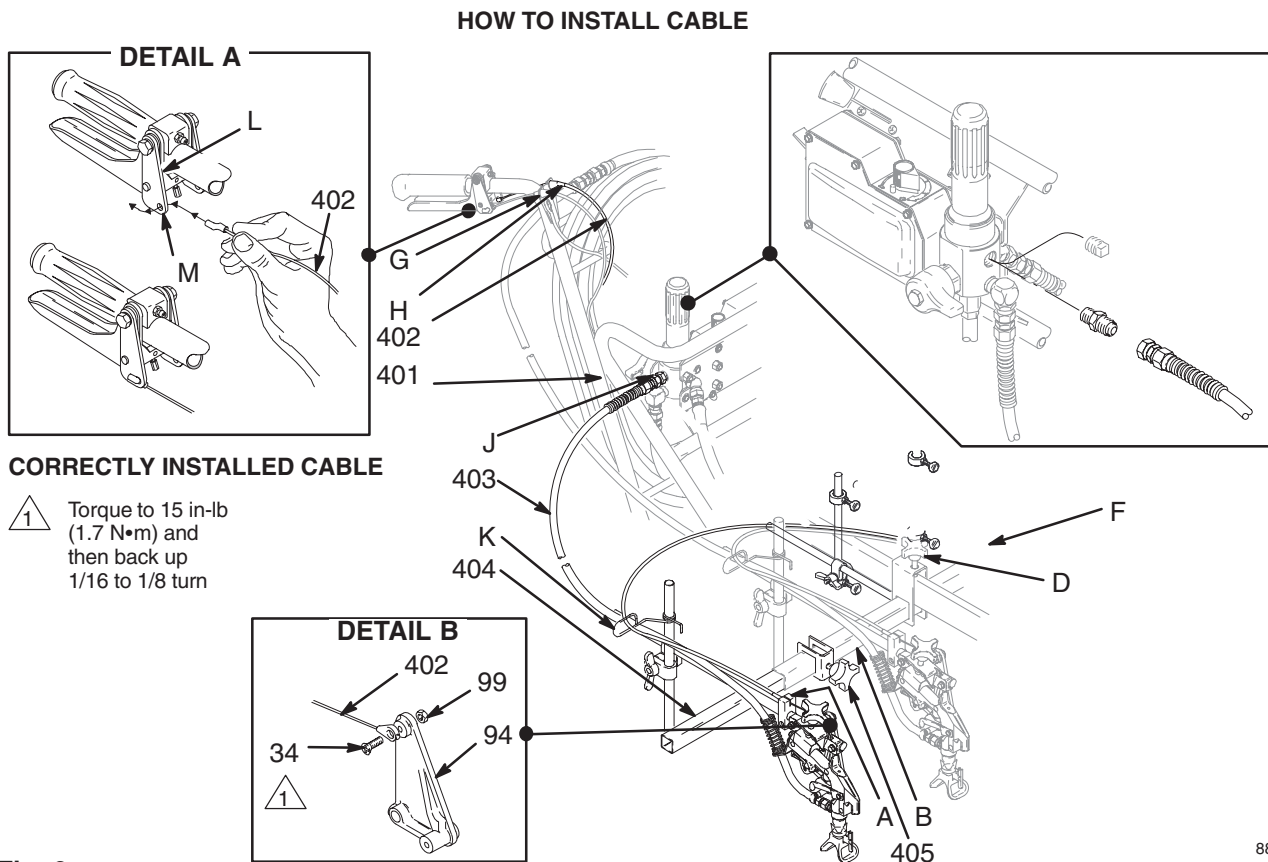

Fig. 2
To reduce the risk of an injection injury due to remotely triggering the gun by accident, always disengage the trigger cable from the block before handling the gun. See Fig. 2, Detail A. **THE GUN WILL TRIGGER BRIEFLY WHEN RELEASING THE CABLE!** Before you remove the gun from the holder, engage the gun's trigger safety latch.
NOTE: Fig. 2, which shows the second gun (outside gun) being mounted on the pump side of the cart, represents the installation at step 3.
2. Loosen the carriage clamps (D). Slide the carriage bar (B) off the cart.
3. For mounting the second gun bar on the pump side of the cart: Slide a clamp (405) onto the carriage bar (B) as shown in Fig. 2. Slide the carriage bar through the pump-side carriage clamp (D) and into the center of the cart. Now slide another clamp (405) onto the carriage bar.
6. Disconnect the trigger cable from the second gun at the screw (34). See Fig. 2, Detail B.
7. Unscrew the filter's second outlet cap (J). Screw the hose (403) onto the filter nipple.
8. Remove the guide clamp screw from the area (F).
9. Snap the cable bushing (H) into the fluid plate (G). Route the trigger cable (402) parallel with the main gun cable, separating the guide clamp (F) to feed the cable through it. Install and tighten the guide clamp screw (F). Route the cable through the cable guide (K) and to the second gun.
10. Slide the hooked end of the cable (402) through the hole (M) in the lever plate (L). Rotate the hook and slide it back until it hooks on the plate. See Fig. 2, DETAIL A.
11. Reconnect the trigger cable to the second at the screw (34). Torque the screw to 15 in-lb (1.7 N•m), and then back it off 1/16 to 1/8 turn and tighten the jam nut (99) while holding the screw (34). Be sure the plate (94) moves freely.
12. Install the clip (401) to hold the cable onto the frame.
13. Connect both trigger cables to the blocks (A). See page 4. Now adjust the cable tension. See page 8.